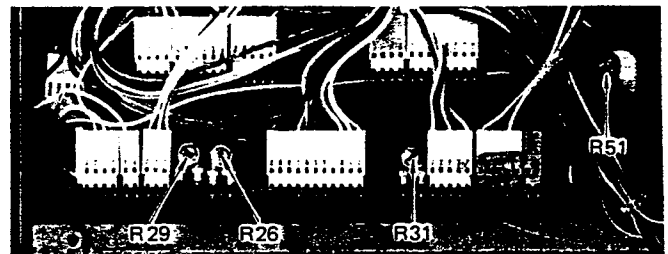

Fig. 6-4-3
- 2) Turn the reduction pulley with your hand and observe whether the head base comes to the same position as noted or exceeds the position. If exceed, adjust the trim pot R31. (Refer to Fig. 6-4-3)
Run the deck in the FF or RWD mode and make sure a clearance between each brake drum and the brake pad is approx. 1.5 to 2 mm. If not, adjust R26. (Refer to Fig. 6-4-3) After the adjustment has been completed, repeat switching operations from the STOP to FF or RWD two or three times and make sure the clearance "a" is within the specified range.
Set the deck to PAUSE mode and observe the clearance "b" between the pinch roller and capstan shaft. It should be approx. 0.5 mm to 1 mm. If not, adjust the trim pot R29 (Refer to Fig. 6-4-3). After completion of the adjustment, repeat switching operations from STOP to PAUSE mode two or three times, and make sure the clearance "b" is within the specified range. Also make sure there is a clearance "c" between the head base and a spring stud.
- d) Adjust the trim pot VR51 (Refer to Fig. 6-4-3) provided on the rear side of the PITCH control variable resistor with a small "-" driver to obtain 3000 Hz ± 5 Hz reading on the frequency counter.